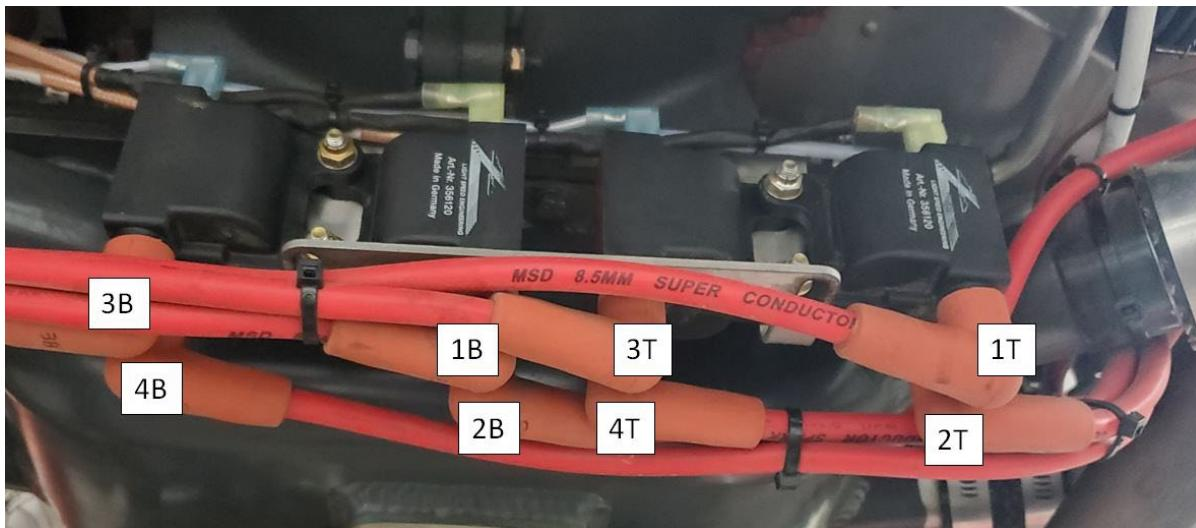

FIGURE 2 – SPARK PLUG AND IGNITION WIRE LABELING
- Label each spark plug wire and corresponding ignition wire (the spade connection opposite each spark-plug wire stud) as shown in Figure 2. Then remove the spark plug wires and ignition wires from the ignition coils.